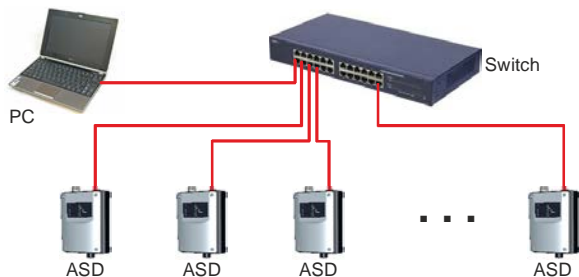

Fig. 52 Design of an Ethernet ASD network
- The line length between the participants as shown in **Fig. 52** (switch – ASD / switch – PC) is a maximum of 100 m.